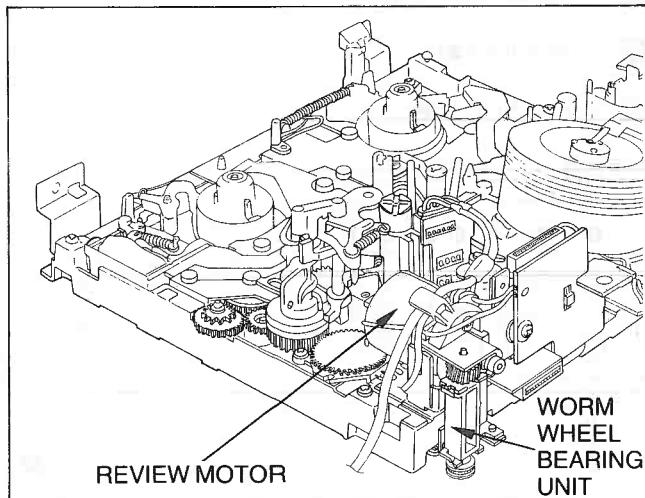

Figure 1 Location of REVIEW MOTOR
(See Figure 1)
- Connect a 1.5k ohm, 10 watts resistor, in parallel with a 0.15μF capacitor, between each exposed metallic part on the set and a good earth ground such as a water pipe, as shown in Figure 1.